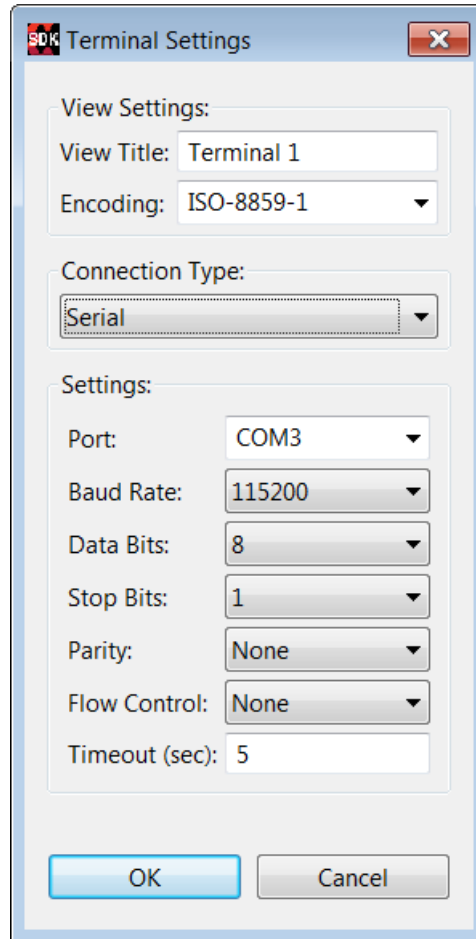

Figure 36: Terminal Settings for ZC702 Board
9. Use the following settings for the ZC702 board (FIGURE 36).